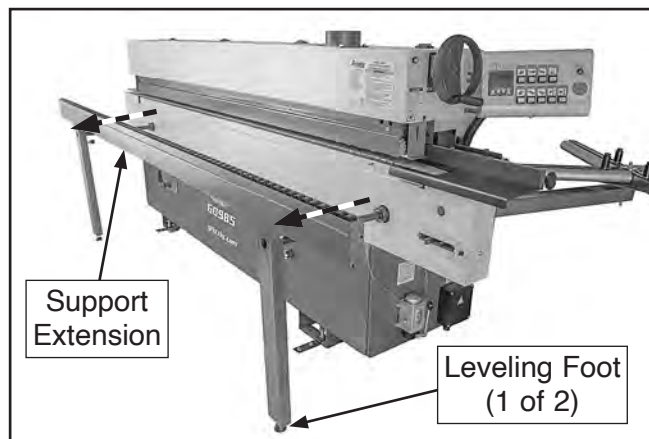
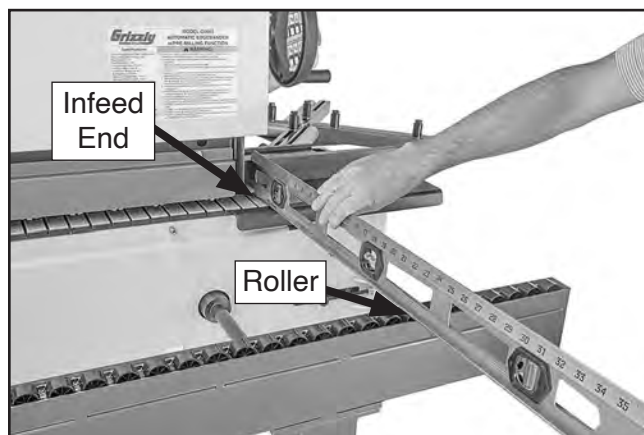

Figure 30. Support extension pulled out.
Figure 31. Leveling extension with conveyor.
14. Pull support extension all the way out (see **Figure 30**).
15. Place level over infeed table and support extension roller; use support extension leveling foot (see **Figure 30**) to raise or lower until level with infeed table (see **Figure 31**).